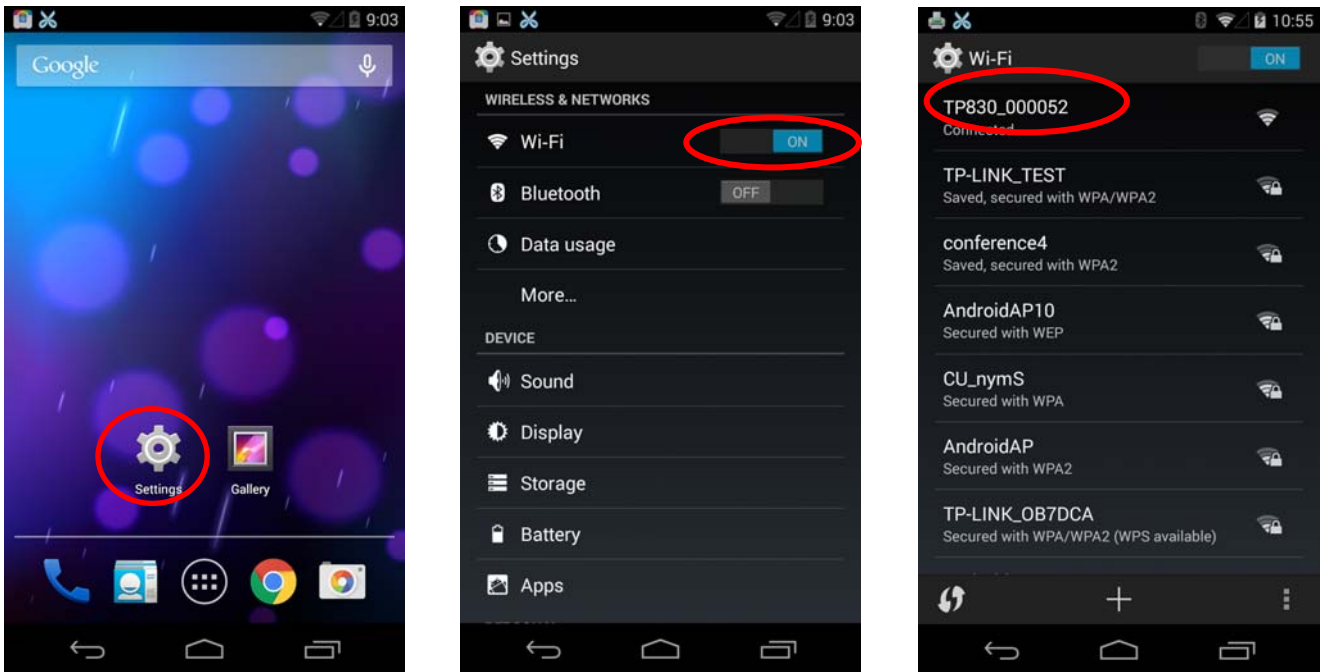

Figure 2
2. Click "Settings" and the interface pops up. Select the "WLAN" function to "ON", then click the printer Wi-Fi searched by the mobile phone to connect. The printer Wi-Fi default name is composed of "the printer model+6 numbers and letters" (as shown in Figure 2).